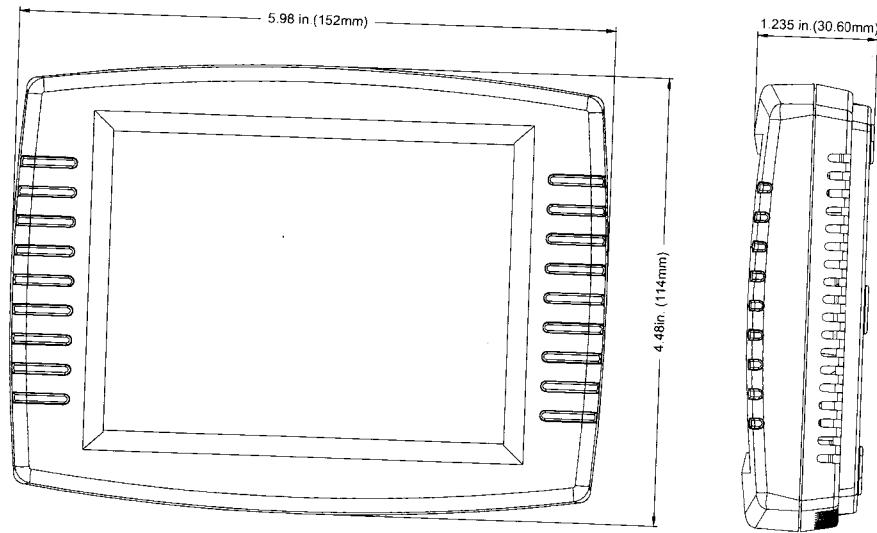

Fig. 1. Touchscreen Thermostat dimensions in inches. (mm).
1. A3101 Touchscreen Thermostat: see Fig 1.